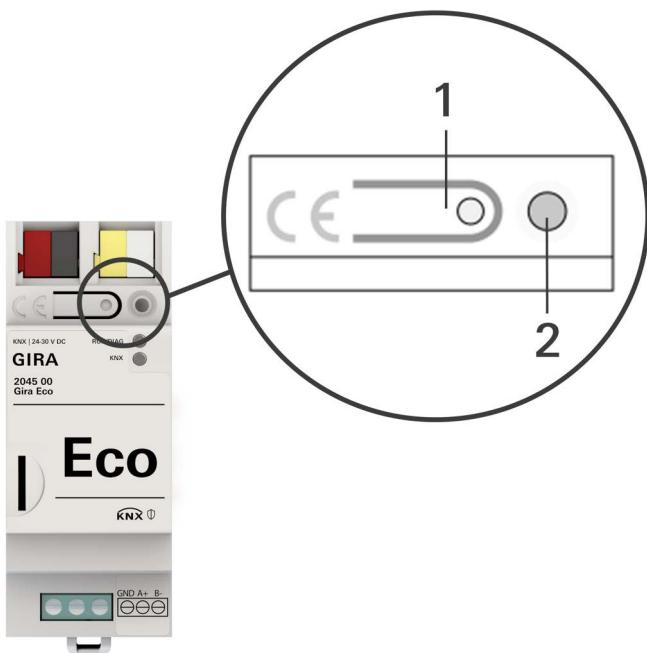

Figure 22: Programming
1. Briefly press the programming button (figure 22, pos. 1). The programming LED (figure 22 pos. 2) lights up red.
1. Press the programming button (figure 22, pos. 1) and keep it pressed while you attach the power connection terminal.